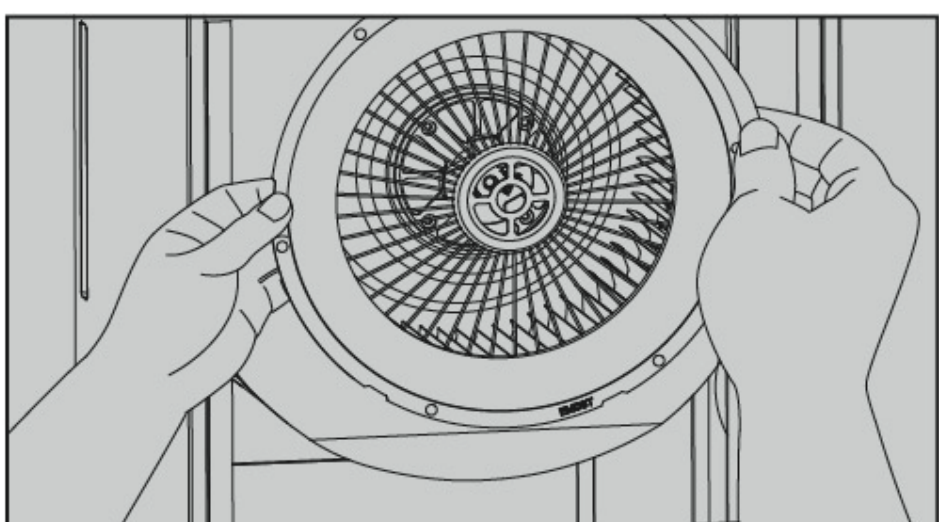

Fig.7
6. Loosen the screw, take off the air inlet(see Figure 7).